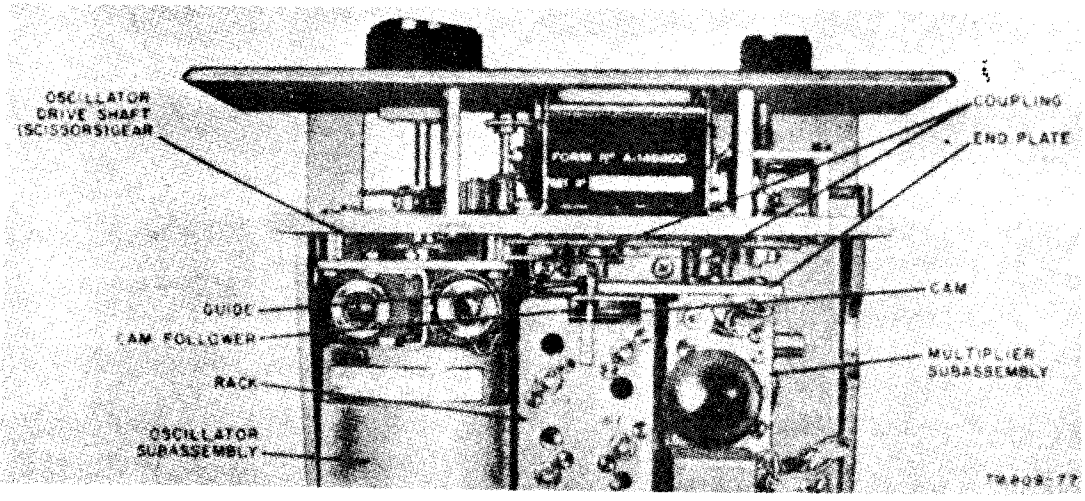

Figure 91. Oscillator-multiplier tuning drive, top view.
- (1) Disconnect plug P802 from receptacle J105 on the rear mounting bracket, and disconnect plug P801 from jack J101 on the multiplier subassembly.
- (2) Loosen the setscrews of the scissor gears (fig. 91) on the oscillator drive shaft.
- (3) While supporting the subassembly, remove the three screws that fasten the subassembly to the gear plate.
- (4) Still supporting the subassembly, loosen the two screws that fasten the rear mounting bracket to the bracket on the bottom plate. (As the latter bracket uses slotted holes, these screws need only be loosened and not completely removed.) The subassembly can now be removed.